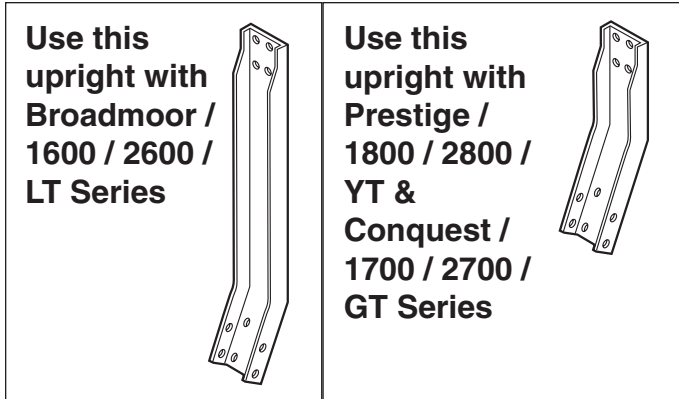

Figure 4. Upright Identification
1. Refer to Figure 4 to select the proper upright support for your application.